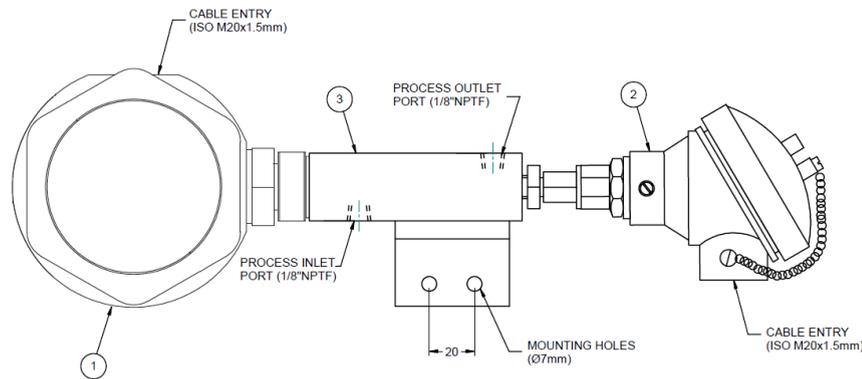

Figure 6 *Liquidew I.S. Sensor Assembly*
- c. Sample liquid connections are made via the process inlet and process outlet ports as shown in *Figure 6*. Both the process inlet and outlet ports are 1/8" NPT female ports. Michell recommends using Swagelok® 6mm to 1/8" NPT (ordering code SS-6M0-1-2) or 1/4" to 1/8" NPT (ordering code SS-400-1-2) male connectors to connect these two ports to the 6mm or 1/4" sampling system tubing. Follow standard Swagelok® installation instructions to make the connections.